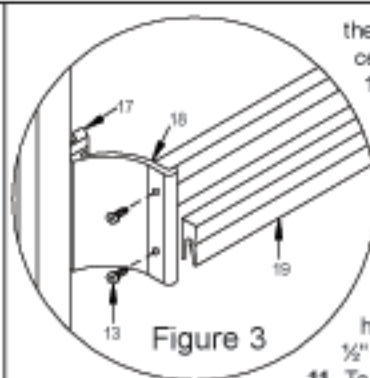

Figure 3
10. Close panels and adjust to align the vertical edge of panels 180-degree posts. Using a 1/4" box-end wrench, loosen the screws on the rollers, but don't remove completely. When screws are loose, adjust panel by sliding the screw in the slot. **Note:** when screws are loose be sure to support panel so it does not fall and break. Adjust inside slider as low as possible to reduce the gap between bottom of slider and sill taking care that the glass does not drag on the sill (6) or center guide (7). Adjust for bowed glass by using the slotted hole in the jamb. Secure bumpers (4) to the jambs using 6-32 x 1/2" screws (5).
11. To set the slider pulls (17) and towel bar brackets (18), first remove any masking tape that was used to hold the vinyl in place. Now on the inside slider, push or gently tap the four pulls (17) into place in the 3" gaps left between the two ends of the glazing vinyl (9).
12. Repeat Step #13 on the outside slider making sure that the towel bar brackets (18) are on the outside. Assemble towel bars (19) to towel bar brackets with four #6 x 3/8" SMS screws (13). (See Figure 3.)